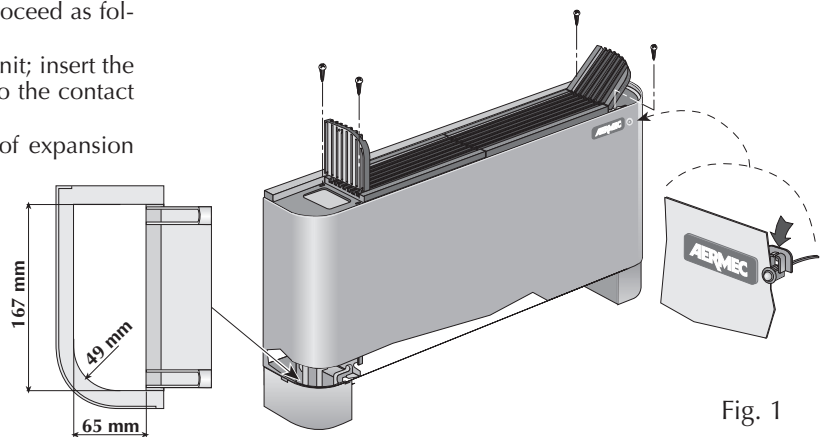

Fig. 1
- Remove the housing by loosening the screws (Figures 1 and 2), or the rear cover panel in the case of wall models, sizes 17 to 50.